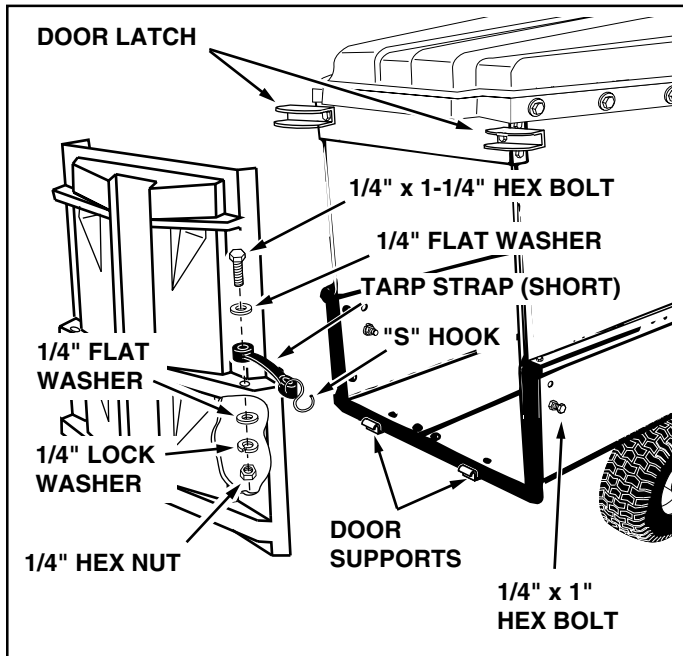

FIGURE 15
25. Assemble a short tarp strap to rear door using one 1/4" x 1-1/4" hex bolt, two 1/4" flat washers, one 1/4" lock washer and one 1/4" hex nut. Assemble an "S" hook through loose end of strap. See figure 15. Repeat on other side of door.
26. Assemble door to rear of cart by resting bottom of door on door supports and pushing top of door in against cross brace. Secure top of door using door latches on each side. See figure 15.
27. Hook both the tarp straps onto the 1/4" x 1" hex bolts in the sides of the cart. See figure 15.